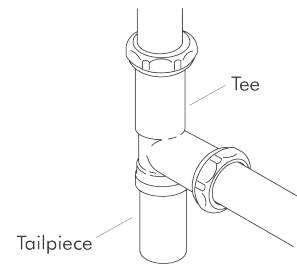

FIG. 2
5. Put tee into position. **(FIG. 2)**